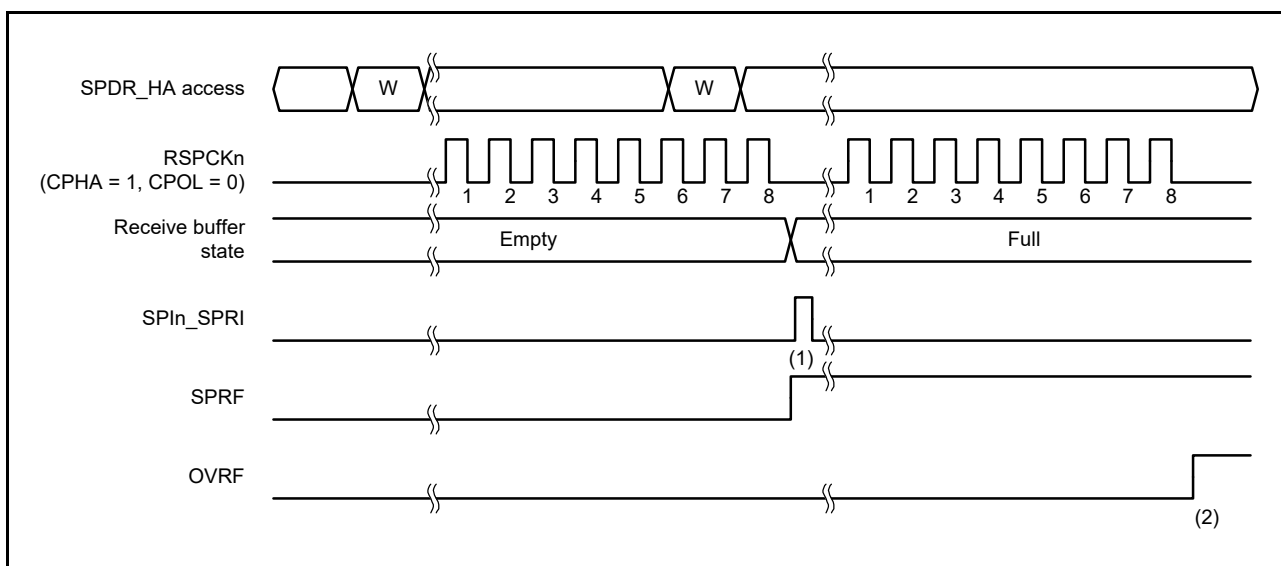

Figure 31.24 Operation example when SPCR.TXMD = 0
Full-duplex synchronous serial communications or transmit operations can only be selected by the communications operating mode select bit (SPCR.TXMD). The SPDR/SPDR\_HA access shown in Figure 31.24 and Figure 31.25 indicate the condition of access to the SPDR/SPDR\_HA register, where W denotes a write cycle.
Figure 31.24 shows an example of operation where the communications operating mode select bit (SPCR.TXMD) is set to 0. In the example in Figure 31.24, the SPI performs an 8-bit serial transfer in which the SPCMD0.CPHA bit is 1 and the SPCMD0.CPOL bit is 0. The numbers given for RSPCKn in the waveform represent the number of RSPCK cycles, meaning the number of transferred bits.
The operation of the flags at timings shown in (1) and (2) in Figure 31.24 is as follows:
(1) When a serial transfer ends with the SPDR\_HA receive buffer empty, the SPI generates a receive buffer full interrupt request (SPIn\_SPRI), the SPI sets the SPSR.SPRF flag to 1, and the received data is copied from the shift register to the receive buffer.
(2) When a serial transfer ends with the SPDR\_HA receive buffer holding data that was received in the previous serial transfer, the SPI sets the SPSR.OVRF flag to 1 and discards the received data in the shift register.